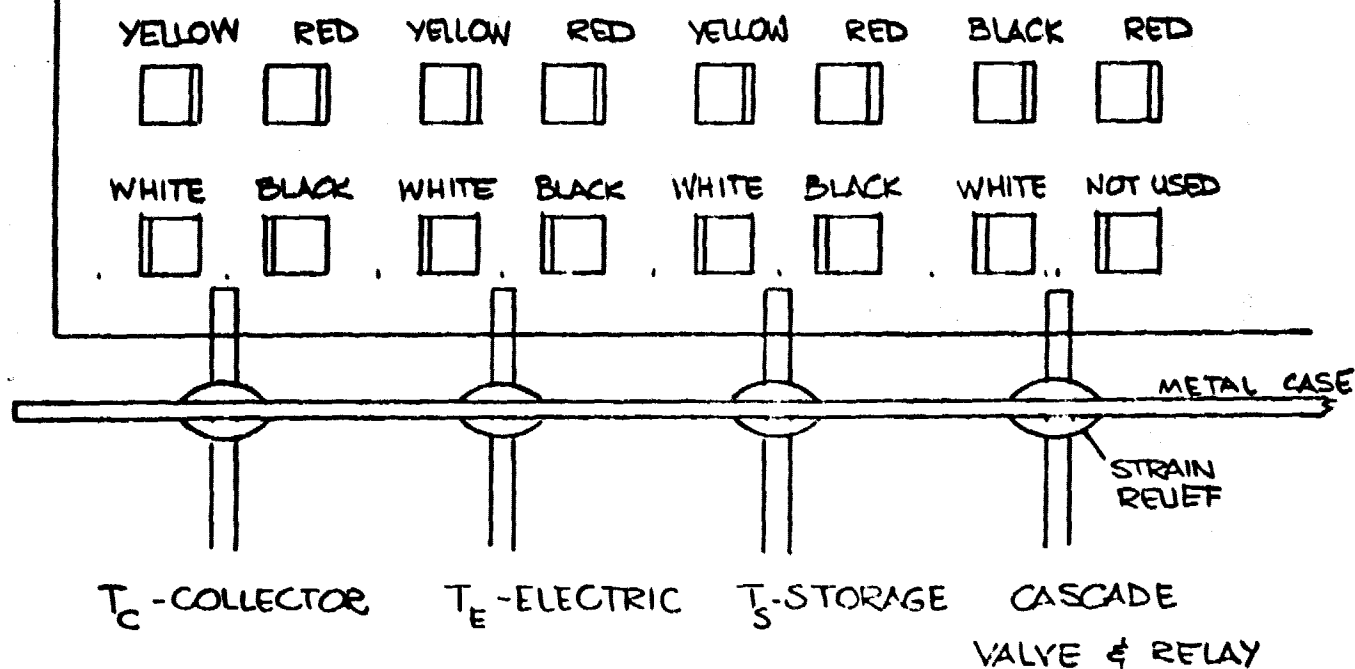

FIGURE 3.5.2.1 CONTROL LEAD COLOR CODING
3.5.2 The Low Voltage Electrical Leads: Connect the four low voltage leads as indicated in Figure 3.5.2.1. Gently insert the grommets into their strain relief grooves and then couple the spade terminals appropriately. Note that these leads may be lengthened by splicing the required additional length of 22 gauge 3 strand (red, black and white) cable. **WARNING:** Maintain the color coding whenever joining the low voltage leads. Note that while each sensor lead terminates in four wires, the yellow (trim resistor) wire is only a few inches in length.